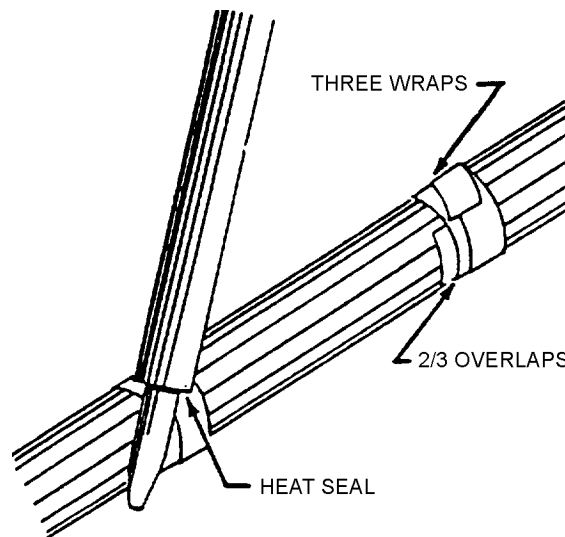

Figure 48. Securing with Tape
68. **PRESSURE SENSITIVE TAPE.** When pressure-sensitive tape is used, apply in accordance with MIL-I-24391. See Figure 48.